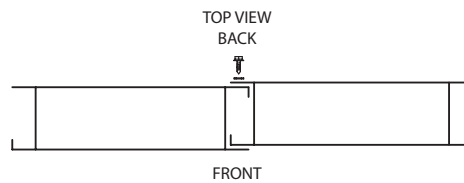

Figure 1
4. Insert unit into opening and fasten as per Figure 1.